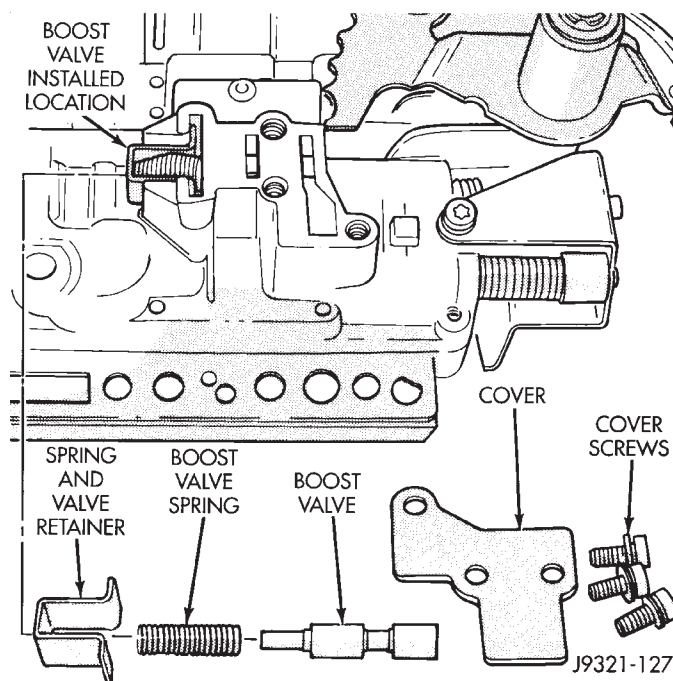

Fig. 91 Boost Valve Components—46RH
- (2) Remove boost valve retainer, valve spring and boost valve (Fig. 91).